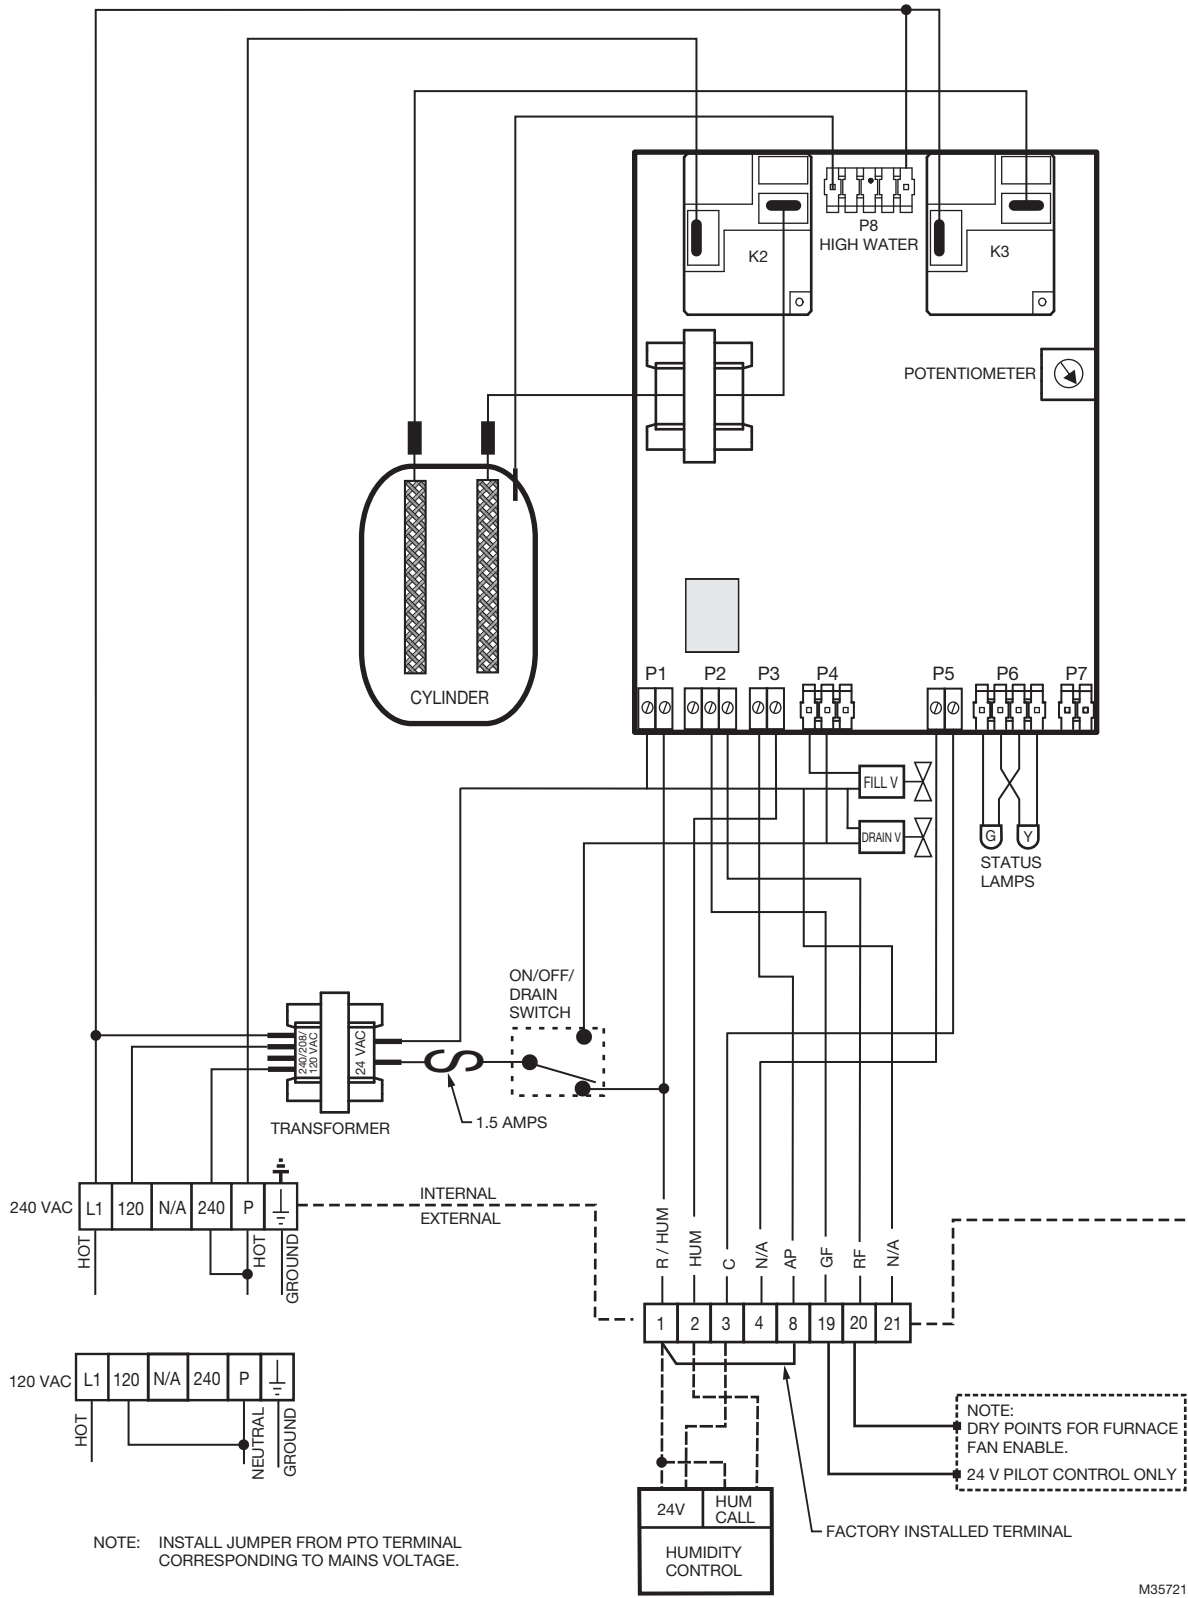

Fig. 4. Wiring diagram.
1. Disconnect the wire harnesses and take note of their terminal positions. (See “Fig. 4 Wiring Diagram” on page 3.)